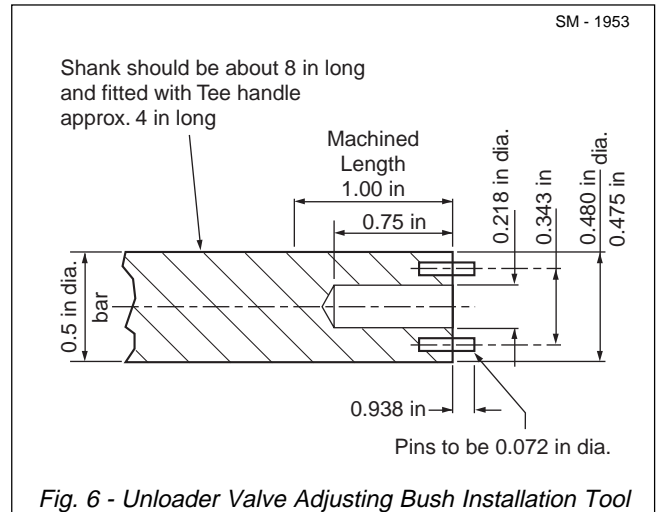

Fig. 6 - Unloader Valve Adjusting Bush Installation Tool
6. Install inner bonded valve (4), ensuring that the flat solid surface is facing outwards.
7. Install pilot valve piston bush (5), ensuring that the two small holes are facing outwards.
8. Install pilot valve piston (10).
9. Install outer bonded valve (9), ensuring that the flat solid surface faces inwards and is in contact with pilot valve piston (10).
10. Install control rod (6) and control spring (8).
11. Install 'O' ring (7) to valve retaining cap (3). Using special tool which can be fabricated as shown in Fig. 6, screw in adjusting bush (1) and fit to main body assembly.
2. Using a test quality gauge, check the system pressure at which the unloader valve operates. It should be  $8.3 \pm 0.2$  bar (117 - 123 lbf/in2), if it is outside this range then adjust the valve using the special tool shown in Fig. 6, (screw in to increase the pressure). To check the adjustment deplete the system pressure by repeatedly applying the brakes, then allow the system to recharge.
Special tool can be fabricated as shown in Fig. 6. Refer to Section 300-0070, SERVICE TOOLS, for part numbers of general service tools. These tools are available from your dealer.